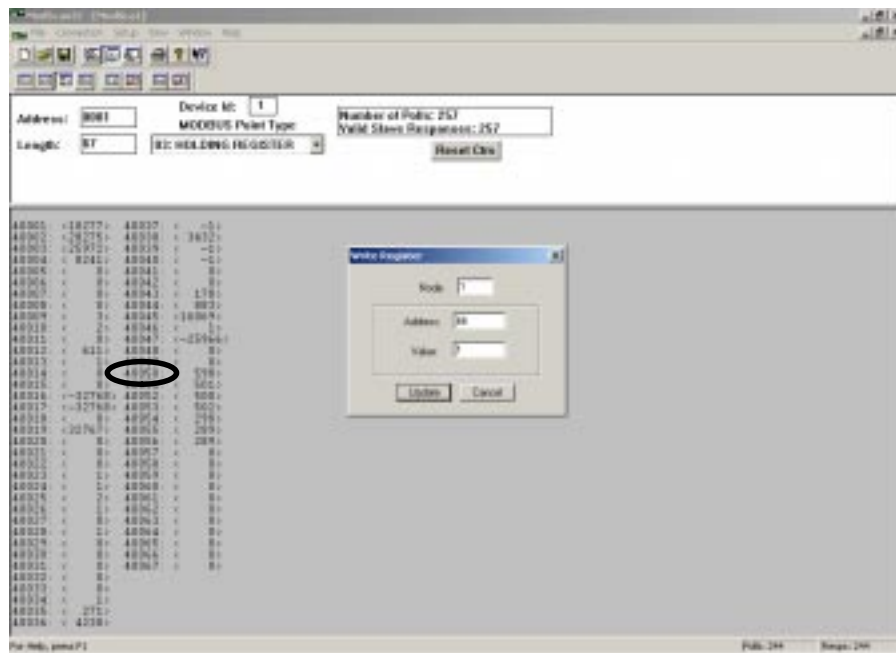

FIGURE 19. WRITE COIL DIALOG BOX
- On the main ModScan menu (see Figure 19), change the Length to 49.